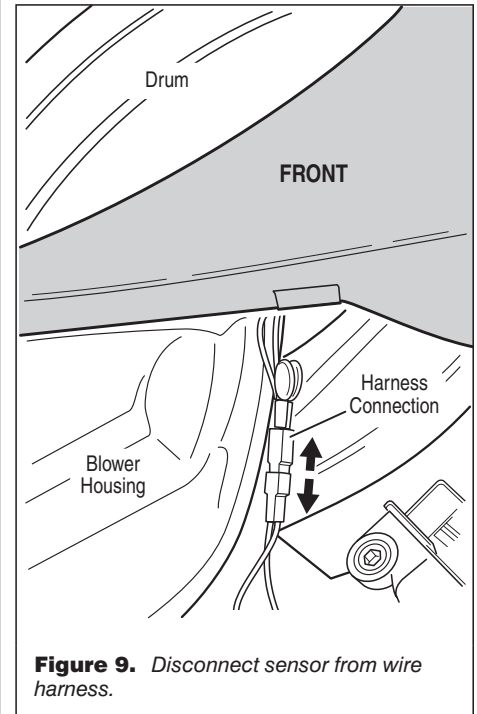

Figure 9. Disconnect sensor from wire harness.
- Access the moisture sensor wires by removing the toe panel. See Removing the Toe Panel, page 7. Disconnect the sensor wires from the harness. See figure 9. Go to step 8.
6. Access the moisture sensor by removing the toe panel. See Removing the Toe Panel, page 7. Disconnect the sensor from the wire harness. See figure 9.